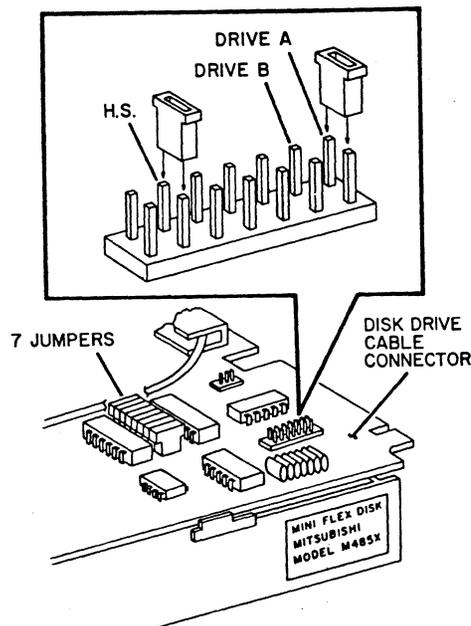

Figure 3. Jumper Locations for Drive A
NOTE: Any time you replace drives, make certain you are using a drive with similar specifications. If you have installed a new drive, check that the shorting plugs or jumpers are in the same position as the old drive. Figure 3 shows jumper locations for the Mitsubishi model M485X, double-sided 96 track per inch drive. Jumper locations are shown for drive 0 (A). If drive 1 (B) is being replaced, install the DS jumper in location 1.